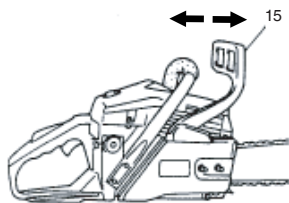

Fig. 10
1. Pull the chain brake (15) toward the front handle to check that the chain brake is disengaged. (Fig. 10)
Starting (Fig. 10 - 14)
Before starting, push the chain brake (15) so that the brake is engaged, and make sure that the bar/chain does not touch anything. (Fig. 10)
Pull the chain brake (15) so that the brake is disengaged. (Fig. 10)
Chain brake operation (Fig. 10, 15)
Application of brake is made by moving the front guard towards the bar. During the chain brake operation, even if the throttle lever is pulled, the engine speed does not increase and the chain does not turn. To release the brake, pull up the chain brake lever. (Fig. 10)